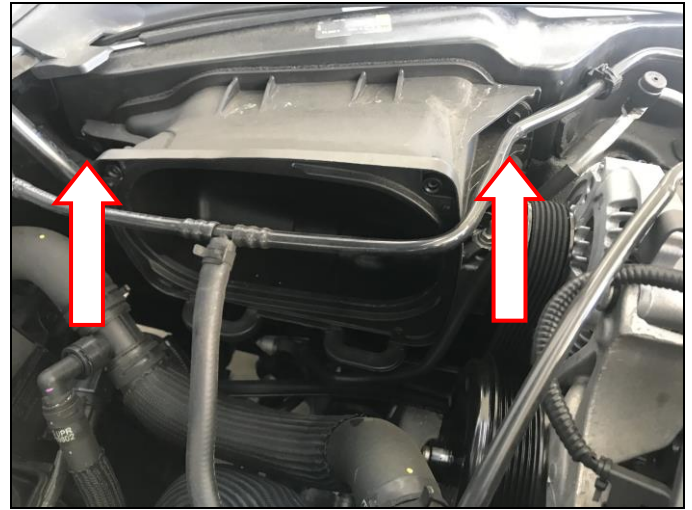

**Figure 2**
3. Disconnect the crankcase vent (CCV) fitting from the factory intake tube (**Figure 2**).
4. Disconnect the Mass Air Flow (MAF) sensor wiring harness (**Figure 2**).